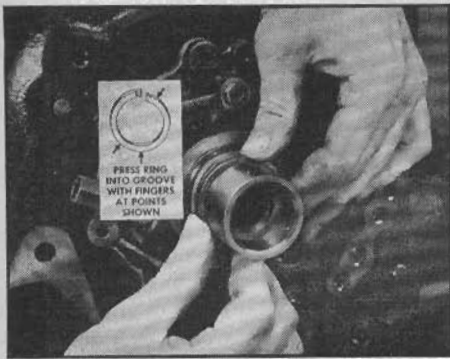

Fig. 43 Installing oil seal rings. 1950-52
7. Install two clutch drum oil seal rings, Fig. 43.